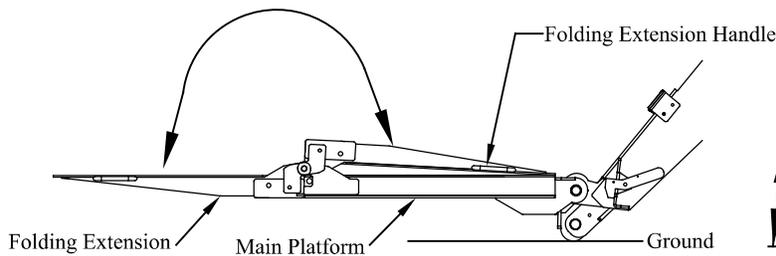

Figure 5: Steps 9 and 13.
Step 9. Stand off to the side and unfold the platform folding extension (Figure 5).
Step 13. To close the platform, stand to the side of the platform, not under or behind the platform. With the liftgate lowered, close and lock the platform cart stops, if so equipped, then fold the folding extension by lifting on the handle (Figure 5).